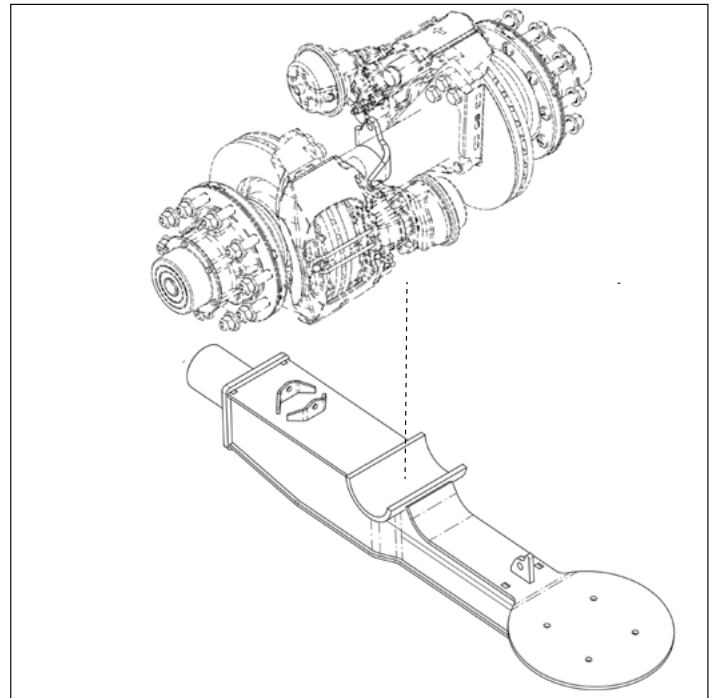

Figure 3.
1. Center the axle assembly on the beam center (Figure 3).